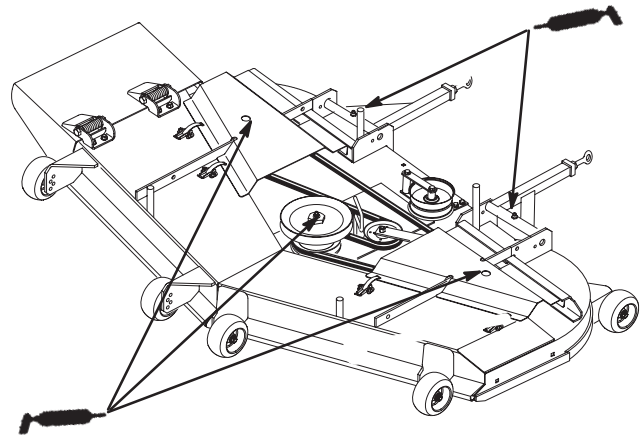

Figure 32
2. Grease the fittings on the three spindle bearings (Fig. 32).
3. Grease the fittings on the push arms(Fig. 32).